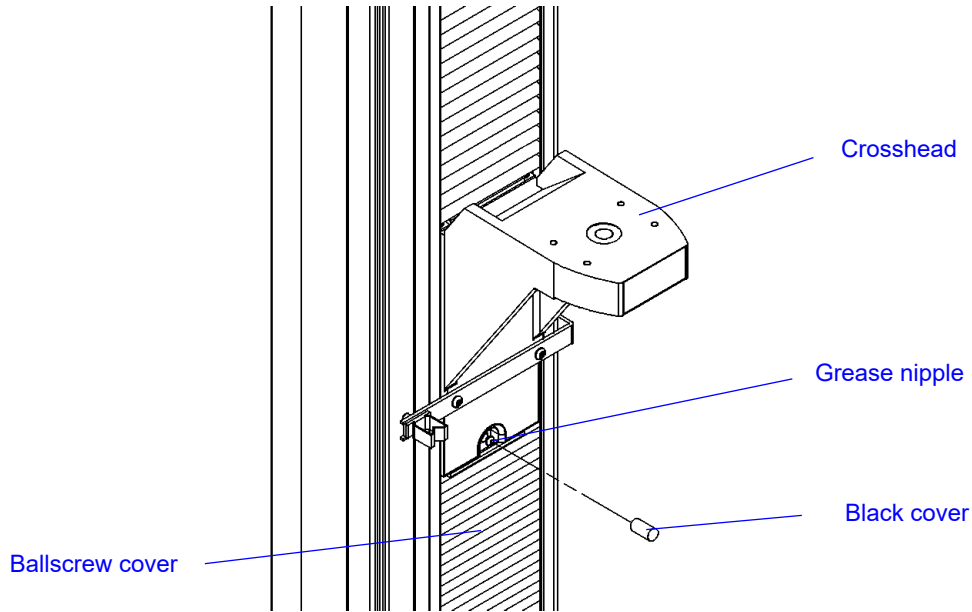

Figure 5-1. Lubricating the Ballnut
1. Turn the power switch to the Off (O) position and disconnect the power cable from the main power source. Ensure that the **POWER** indicator light does not illuminate.
2. Remove the black cover on the front of the crosshead to expose the grease nipple. Refer to Figure 5-1 on page 5-6 to locate the grease nipple on the crosshead.
3. Use a grease gun to apply the grease into the grease nipple as shown in Figure 5-1 on page 5-6.